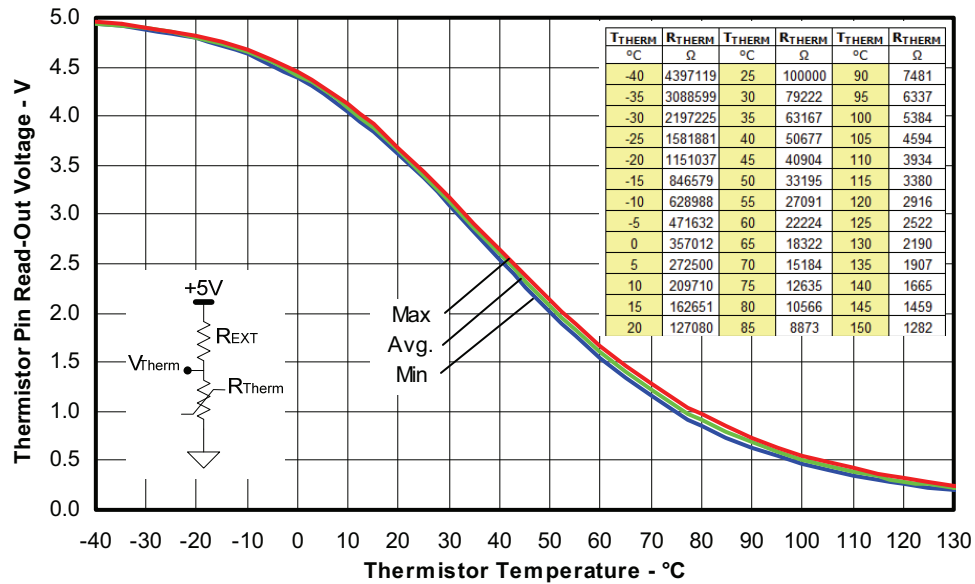

Figure 9. Thermistor Readout vs. Temperature (47kohm pull-up resistor, 5V) and Normal Thermistor Resistance values vs. Temperature Table.
3. Value of the boot-strap capacitors depends upon the switching frequency and modulation techniques. Their selection should be made based on IR design tip DN 98-2a, application note AN-1044 or Figure 9. Bootstrap capacitor value must be selected to limit the power dissipation of the internal resistor in series with the VCC. (See maximum ratings Table on page 3).